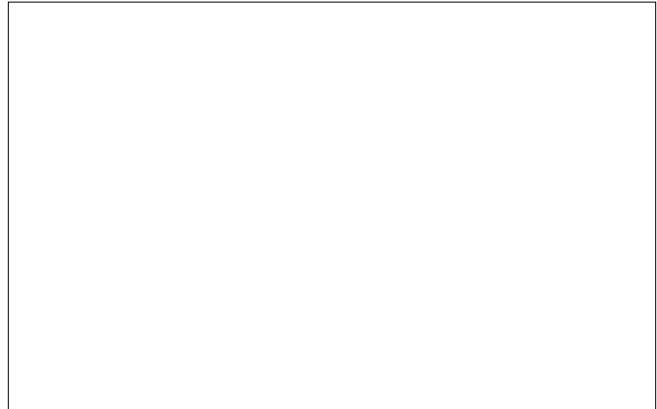

Figure 1. U-Repeater III Circuit Pack
1.1 This practice provides installation and maintenance procedures for the ADTRAN ISDN U-Repeater III. **Figure 1** is a photograph of the circuit pack. The part number and basic features are listed in **Table A**.